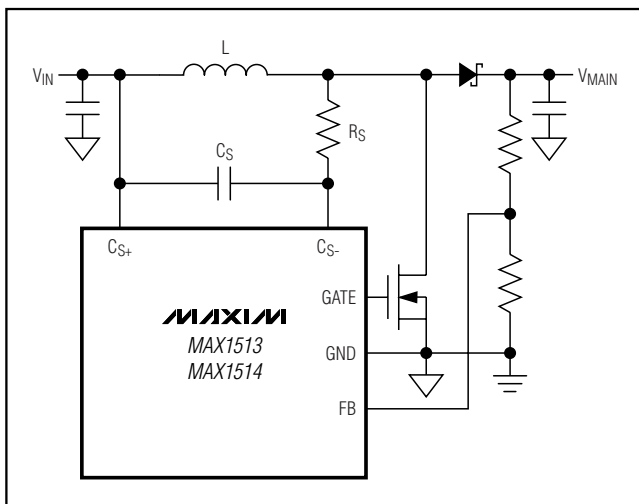
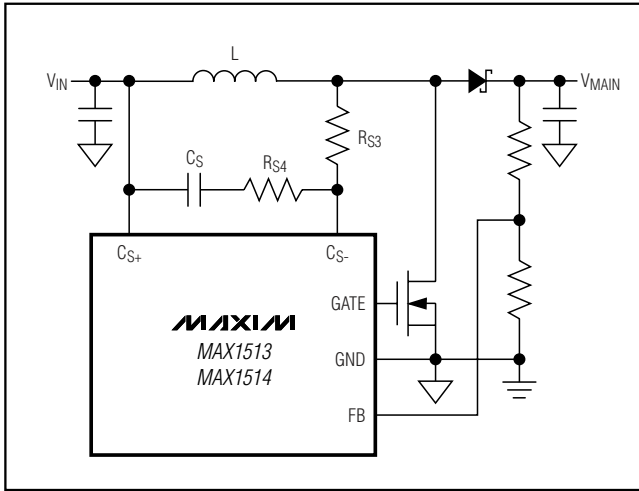

Figure 8. Lossless Current Sensing with 80mV < V_{SENSE} < 100mV
Figure 10. Lossless Current Sensing with $V_{SENSE} < 80\text{mV}$
4) Compare the calculated sense voltage with the minimum value of the current-limit threshold in the *Electrical Characteristics* (100mV). If the sense voltage is between 80mV and 100mV, use the current-sense configuration in Figure 8 with the calculated C_S and R_S above.
6) If V_{SENSE} is less than 80mV, the current-feedback signal is low relative to the current-limit threshold. Use the Figure 8 configuration, or, if good current-limit accuracy is desired, use the optional current-sense configuration in Figure 10 to increase the amplitude of the sense signal. Calculate R_{S3} and R_{S4} :
Because V_{SENSE} would be between 80mV and 100mV, the circuit in Figure 8 should be used. The closest 1% standard value for R_S is 909 Ω .
Because V_{SENSE} would be much less than 80mV, the circuit in Figure 10 can be used to improve the current-limit accuracy. Calculate R_{S3} and R_{S4} :